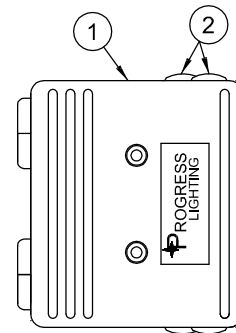

FIG. 1
2. Open MODULE (1) by pressing on the Wing TABS (2) with index and thumb finger. (See fig. 1)